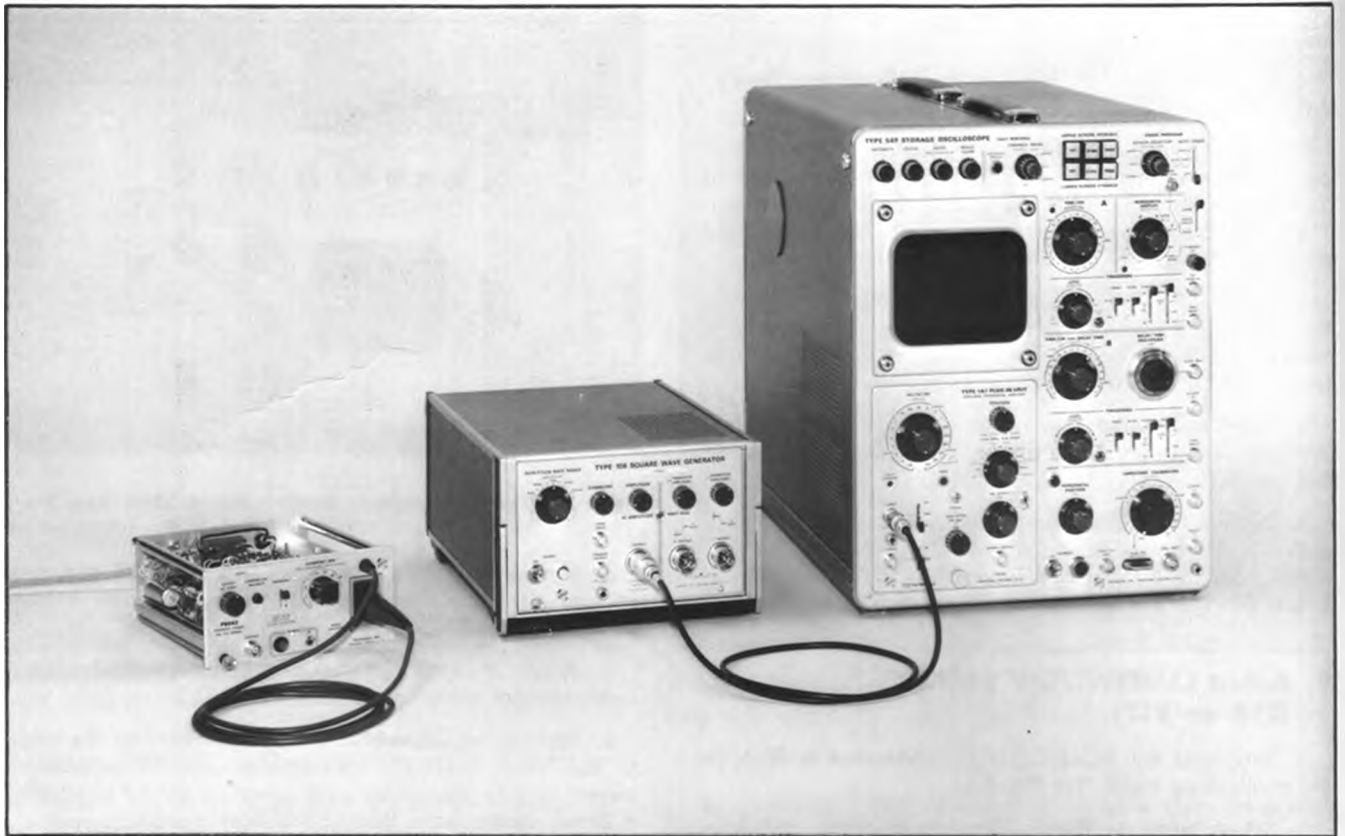

Fig. 6-11. Preliminary test setup for steps 10 and 11.
- c. Remove the cable from the P6042 OUTPUT and connect to the square-wave generator Hi Amplitude output, using the GR-to-BNC adapter. See Fig. 6-11.
- c. Connect the test equipment as in Fig. 6-11.